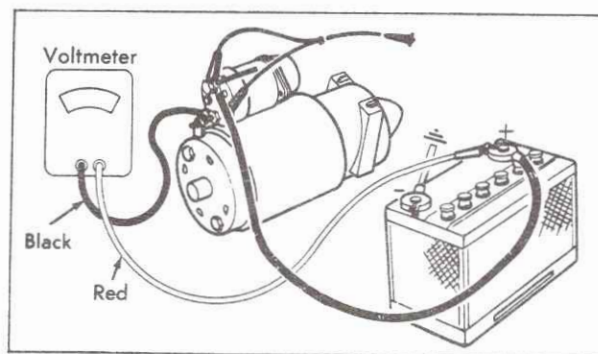

Fig. 6-11 Battery Cable to Starter Test
3. Connect starter solenoid remote switch and test leads as shown in Fig. 6-11.
4. Connect positive voltmeter lead to center of positive battery post, on which insulated battery cable is connected. Connect negative voltmeter lead to starting motor terminal, Fig. 6-11.